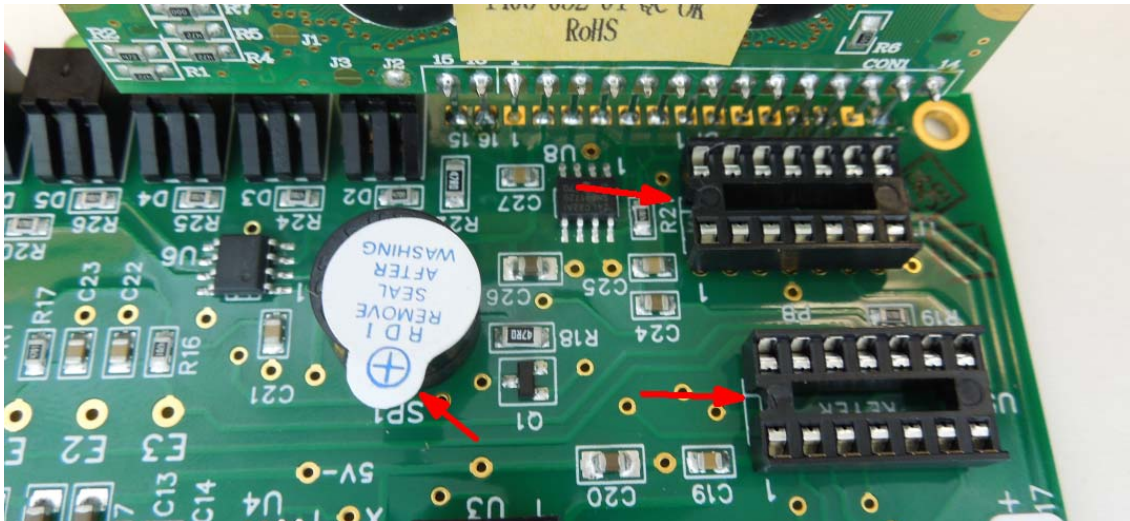

Figure 18 – U5 and U7 Sockets and Mini-speaker installed
- 7) Install and solder two 14 pin DIP sockets at locations U5 and U7. Align the socket notches with the silkscreen as indicated by the red arrows in Figure 18.